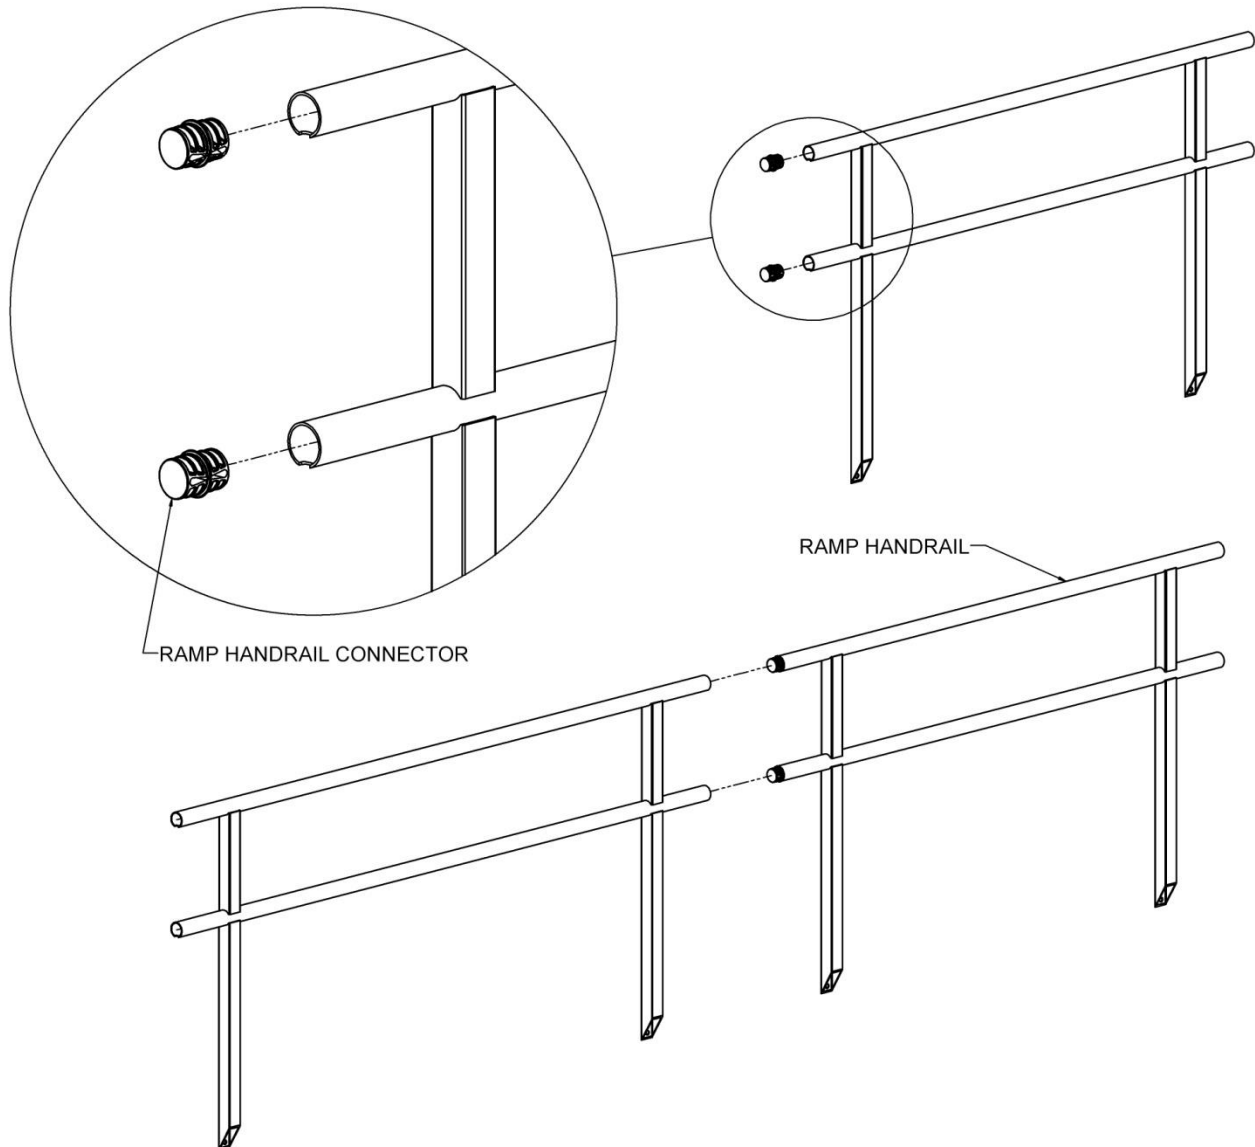

FIG. 4.1
- 4.1.2. In a multiple ramp run configuration, handrail connectors (MRRC – CONNECTOR RAMP TO RAMP) are used to join handrails together. Refer to FIG. 4.1 for the following steps: